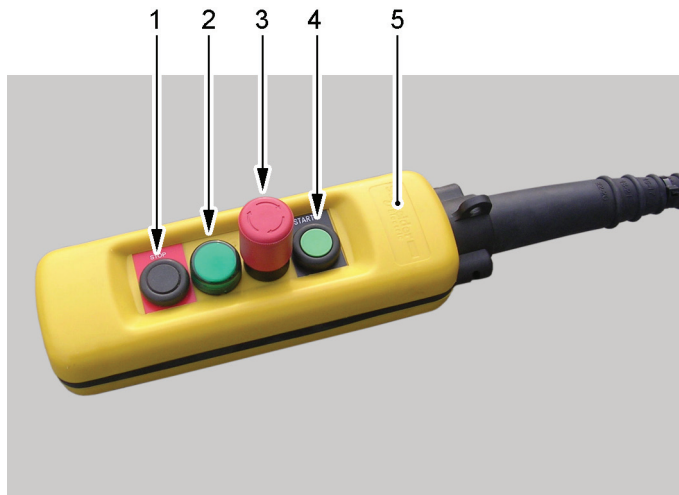

Figure 6.43 - Remote control
- 2) Press the heating cycle start “START” pushbutton (see Figure 6.43/4), situated on the remote control (5). The heating in progress “START” warning light (2) lights up, in order to confirm that the heating cycle has been started.